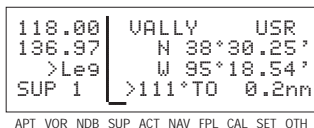

Figure 5-20
5. Press **ENT**. The SUP 1 page for your new waypoint will be displayed with its latitude and longitude (figure 5-20). The cursor is turned off automatically.